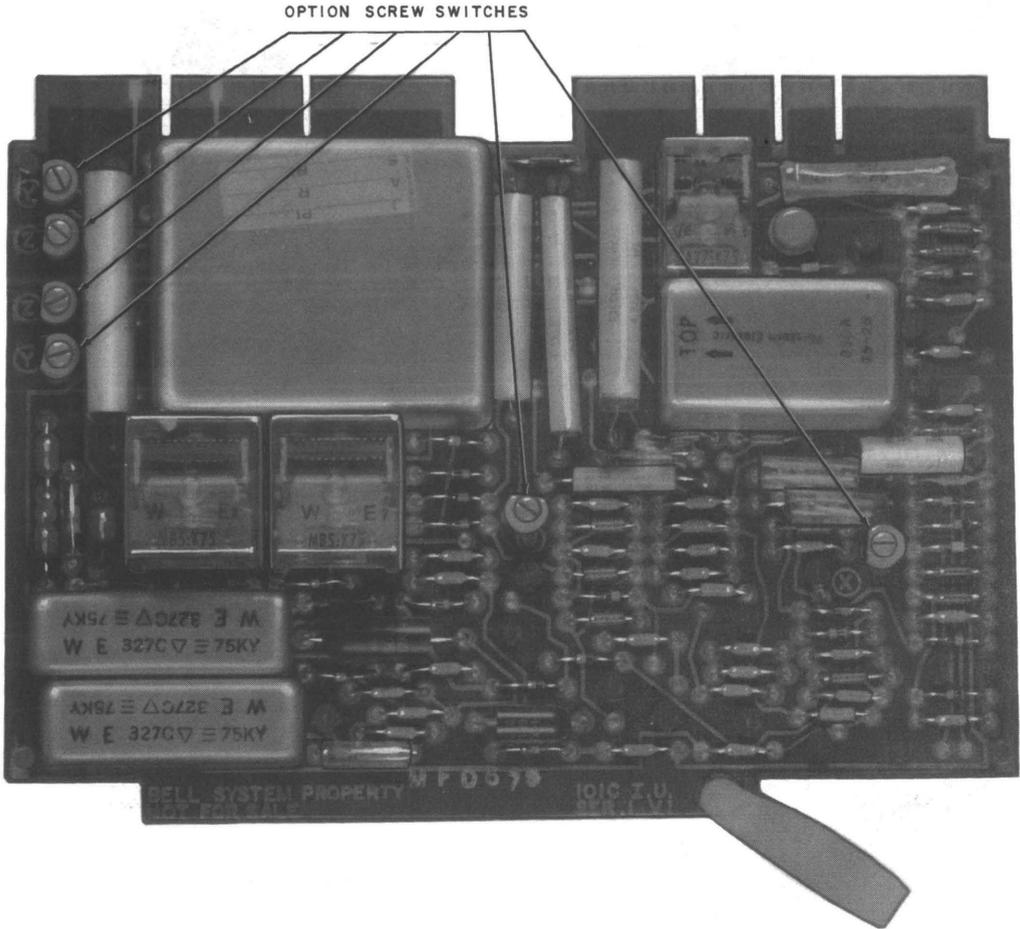

Fig. 3—101C Interconnecting Unit
**2.03 101C Interconnecting Unit**—An 8-inch circuit pack, an improved replacement version of the 101B. Provides line impedance matching to 600-ohm PBX trunk circuits and 600- or 900-ohm CO lines. (See Fig. 3.) May be used with 75A control unit for data applications. Intended to mount in a 604-type or 615A panel.